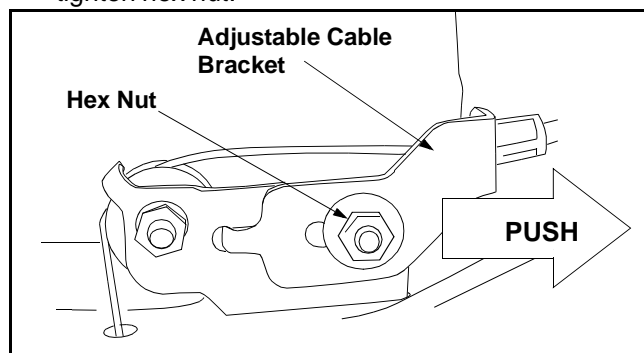

Figure 14
The adjustable cable bracket is located on the left side of the mower beside the engine. See Figure 14.
- Loosen hex nut which secures the adjustable cable bracket. See Figure 14.